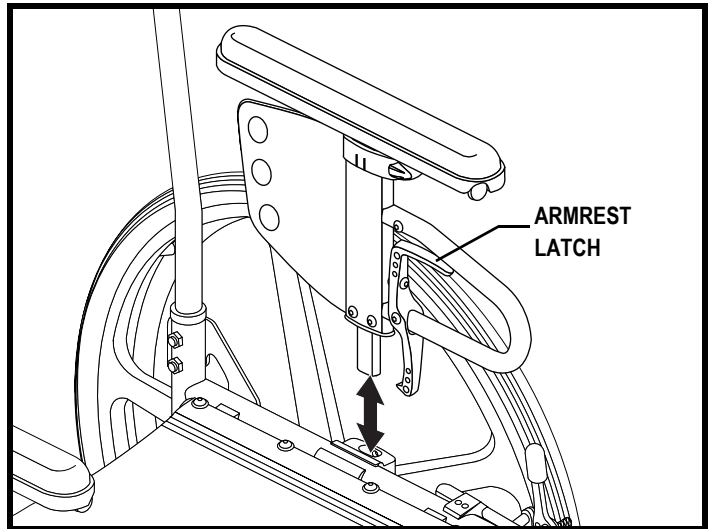

Figure 32. Drop-in Armrest Removal
1. Squeeze the armrest latch. See **figure 32**.